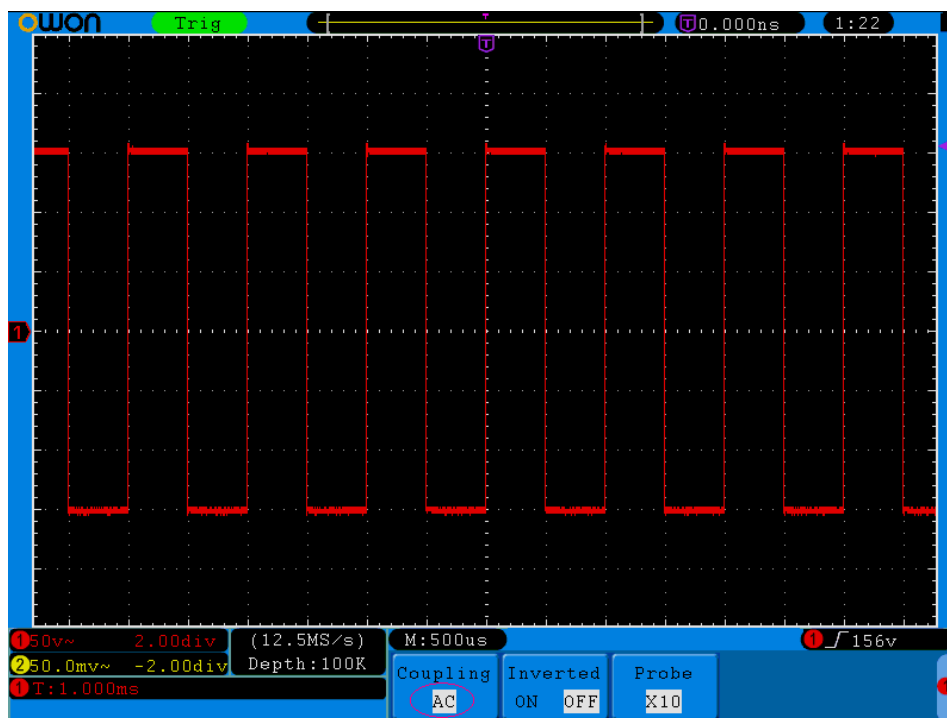

Figure 5-2 AC Coupling Oscilloscope
- (1) Press the **CH1 MENU** button and call out the CH1 SETUP menu.
- (2) Press the **H1** button, the Coupling menu will display at the screen.
- (3) Press the **F1** button to select the Coupling item as "DC". Both DC and AC components of the signal are passed.
- (4) Then, press **F2** button to select the Coupling item as "AC". The direct current component of the signal is blocked. The waveforms are shown as *Figure 5-2*.